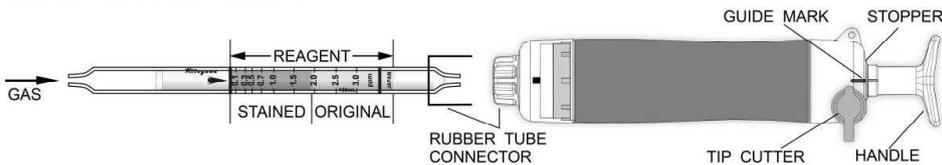

Fig.2
- ② Insert the detector tube into the aspirating pump securely as shown in Fig.2. (Arrow mark shall point to the pump.)
- ③ Align the guide marks on the shaft and stopper of the aspirating pump.
- ④ Pull the pump handle at a full stroke until it locks and wait for 1 minute or until the completion of sampling is confirmed with the flow indicator of the pump. (See descriptions about the flow indicator in the instruction manual of the pump.)
- ⑤ On completion of sampling, read the scale at the maximum point of the stained layer.
- ⑥ When the concentration is over the scale range, a 1/2 pump stroke can be used to determine concentrations of 0.2 - 6.0 ppm.